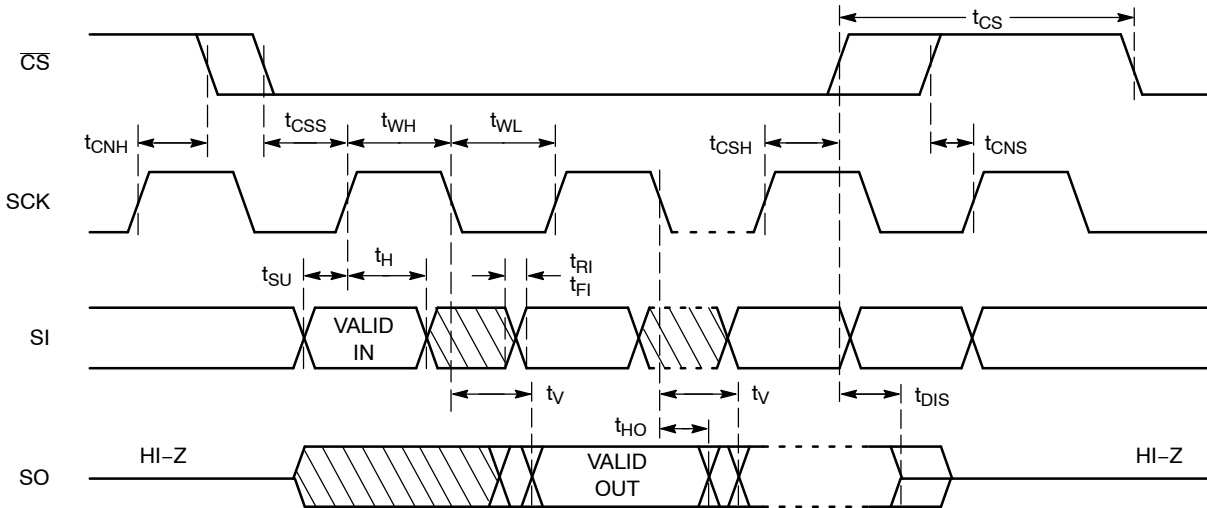

Figure 2. Synchronous Data Timing
7. **All Chip Select (CS) timing parameters are defined relative to the positive clock edge (Figure 2). t_{CSH} timing specification is valid for die revision C and higher. The die revision C is identified by letter "C" or a dedicated marking code on top of the package. For previous product revision (Rev. B) the t_{CSH} is defined relative to the negative clock edge (please refer to data sheet Doc. No. MD-1122 Rev. C).**
After a high to low transition on the $\overline{\text{CS}}$ input pin, the CAT25080/160 will accept any one of the six instruction op-codes listed in Table 7 and will ignore all other possible 8-bit combinations. The communication protocol follows the timing from Figure 2.